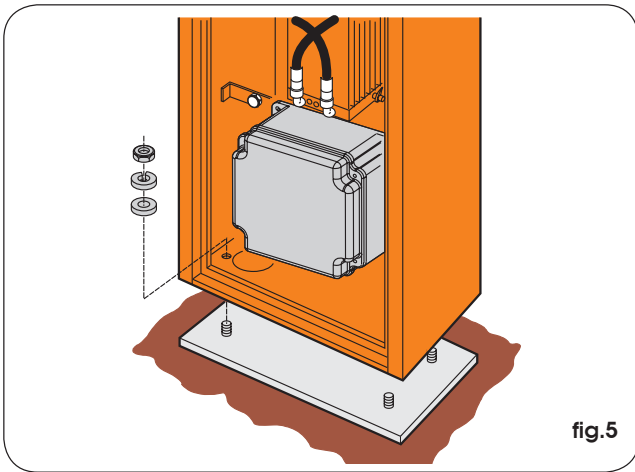

fig.5
- 2) Using the four nuts and washers supplied, secure the upright on the foundation plate as shown in fig.5. Remember that the hatch of the upright should normally face the building.